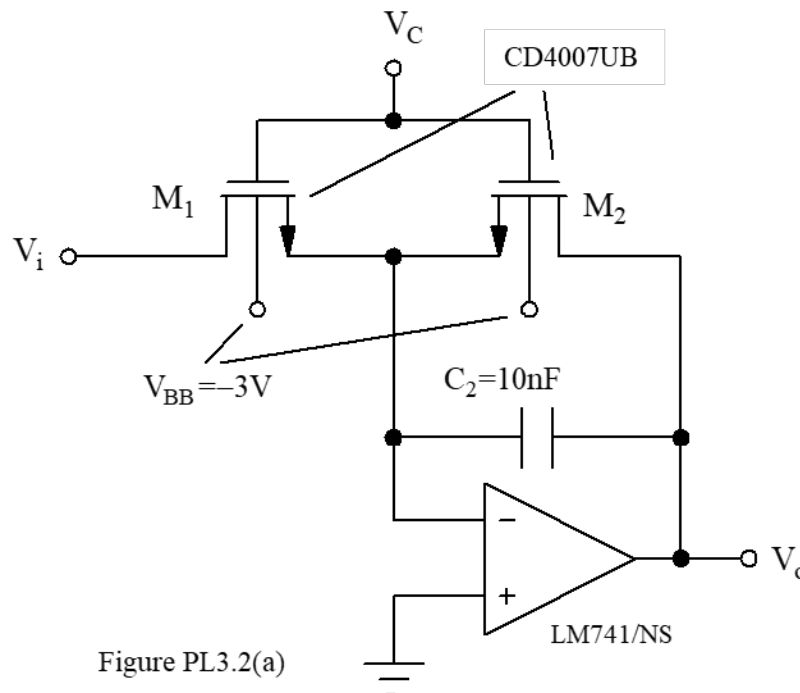

Figure PL3.2(a)
- (a) For the filter circuit shown in Fig. PL3.2(a), the op amp uses the model given in 'lm741.mod', and the MOS transistors  $M_1$  and  $M_2$  use the model given at the beginning of this pre-lab and in 'cd4007ub.mod'. Assuming for now that  $M_1$  and  $M_2$  are identical, calculate and tabulate (using the *Results Sheet for Preliminary Exercises*) the 3dB bandwidth of the filter for values of control voltage  $V_C$  from 2V to 10V, in steps of 1V.
- (b) Using SPICE, generate Bode plots (all on the same graph) for the circuit of Fig. PL3.2(a) for values of  $V_C$  from 2V to 10V, in steps of 1V. Use the SPICE model 'cd4007ub.mod' for each NMOS transistor and use the model in 'lm741.mod' for the op amp.